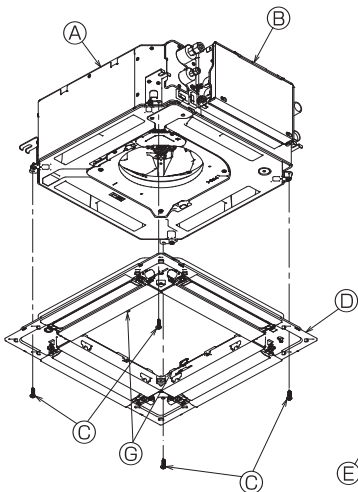

Fig. 10-6
- Secure the grille by tightening the four screws. (Fig. 10-6)